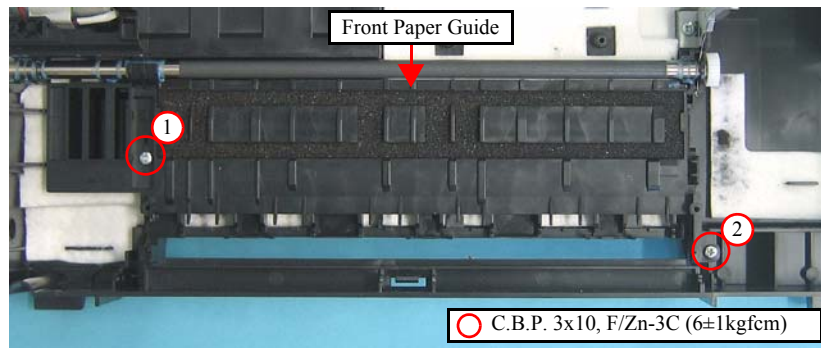

Figure 4-105. Removing the Front Paper Guide (1)
- Tighten the screws in the order given in Figure. 4-105.